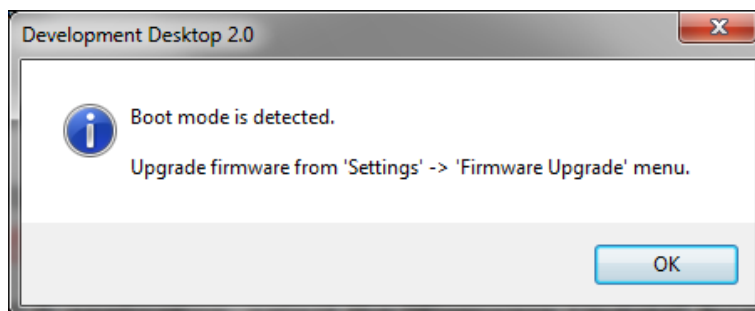

Figure 7: Development Desktop 2.0 Boot mode
- 3) Click on “OK” button in the boot mode detected screen (Figure 7).